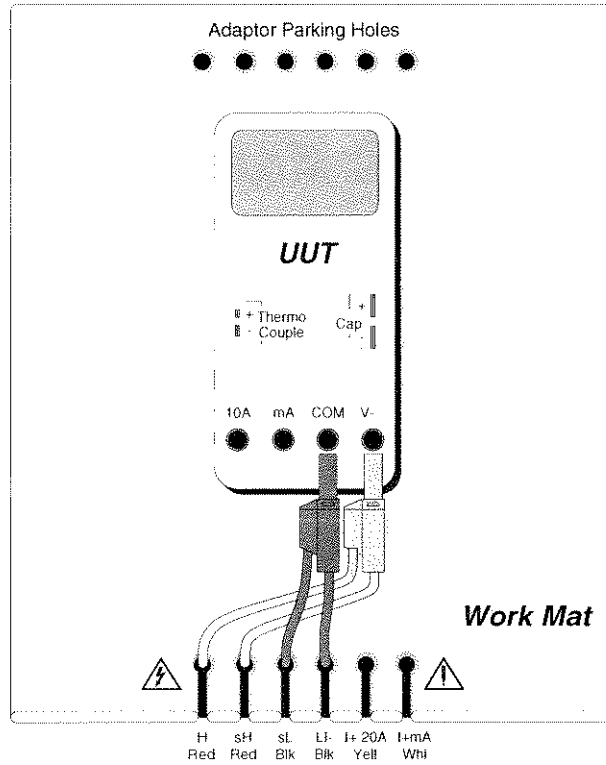

Fig. 9.1 Connections for Frequency Calibration
Connect the 9100 to the UUT as shown in Fig. 9.1 , and ensure that both instruments are powered ON and warmed up.
1. Connections Connect the 9100 to the UUT as shown in Fig. 9.1, and ensure that both instruments are powered ON and warmed up.